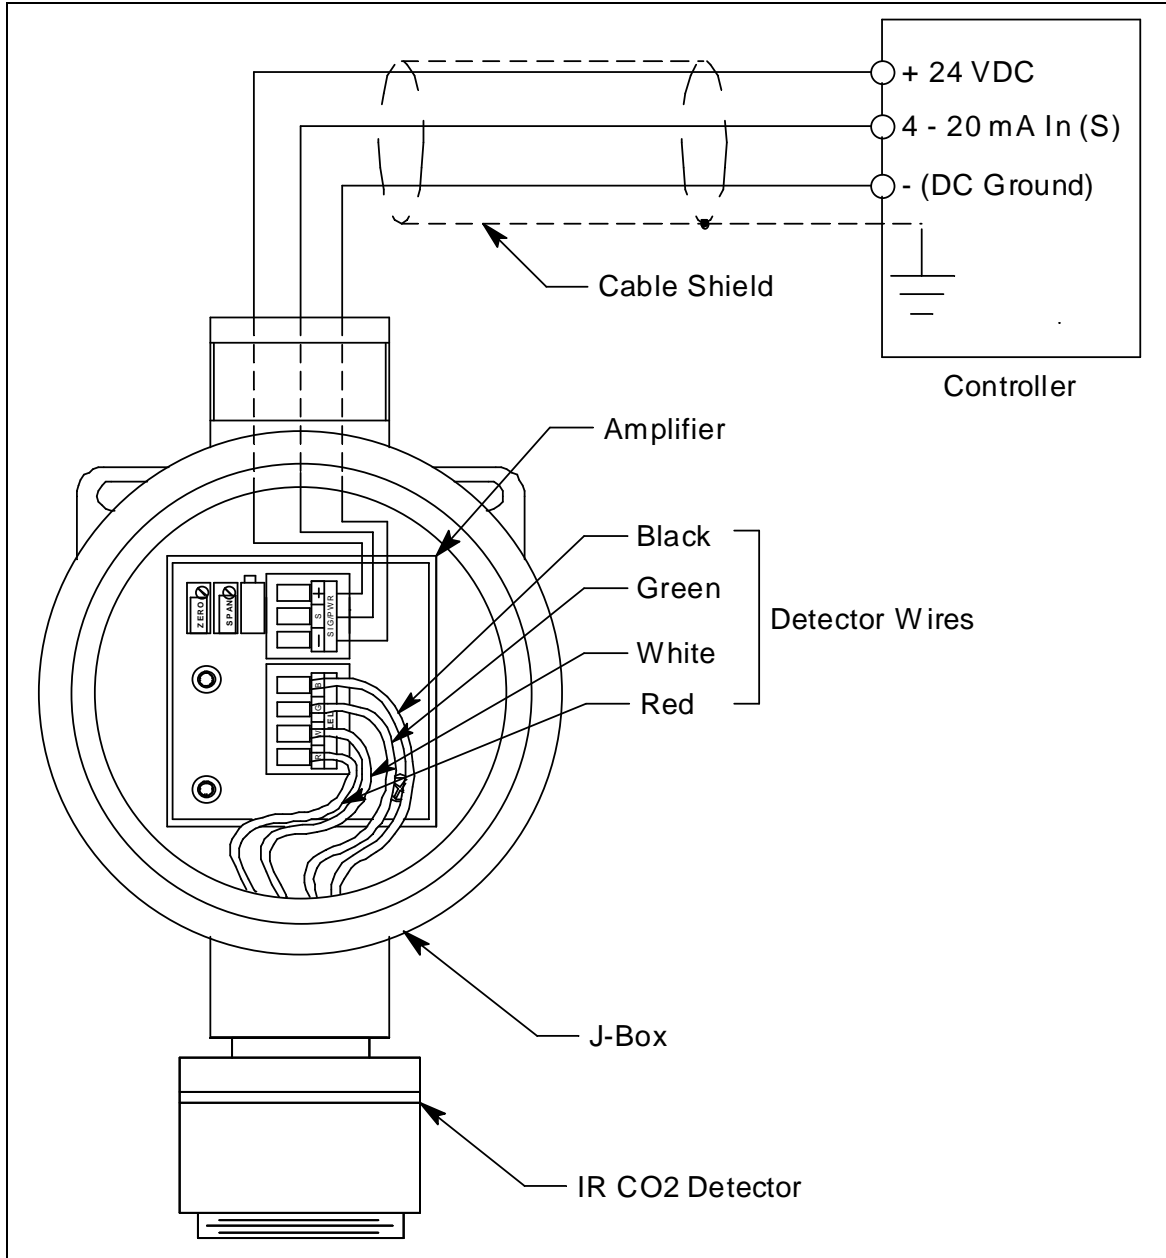

Figure 5: Wiring the CO₂ Transmitter to a Controller
4. The detector leads are factory wired. Verify that the detector leads are wired to the amplifier's detector terminal strip as shown in Figure 5.
7. Pull out the controller terminal strip, and connect the three wires to the terminal strip as follows (see Figure 5).
11. Connect the wires to the applicable detector/transmitter terminal strip at the controller as shown in Figure 5.
8. Connect the detector leads to the detector terminal strip as shown in Table 3 below and Figure 5 on page 12 of this manual.